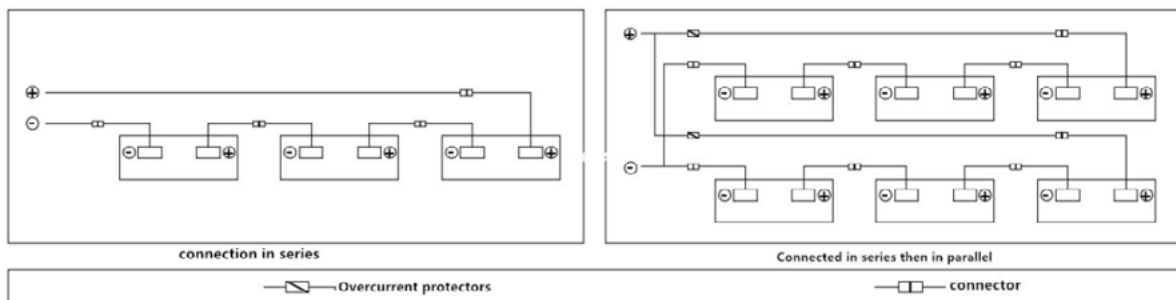

FIGURE 7-1 SERIES-PARALLEL ELECTRICAL DIAGRAM
- When Sunshine Tiles are connected in series, the total voltage is the sum of voltage of every single Sunshine Tile in the string, and when Sunshine Tiles are connected in parallel, the final current is the sum of the current of every string of Sunshine Tiles, as shown in Figure 7-1. Sunshine Tiles of different electrical performance models should not be connected in one string.
- If a reverse current exceeding the maximum fuse current of the Sunshine Tile may pass through the product, an overcurrent protection device of the same size must be used to protect the product. If the number of parallel connections is more than or equal to 2 strings, there must be an overcurrent protection device on each string of the products, as shown in the figure 7-1.